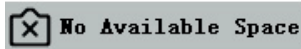

Figure 6-2
■ When pressing the snap button, recording videos, and taking photos at a fixed time, “No Available Space” will be displayed, as shown in Figure 6-2. Please sort out the SD card space on the computer and insert it again into the slot on the screen.